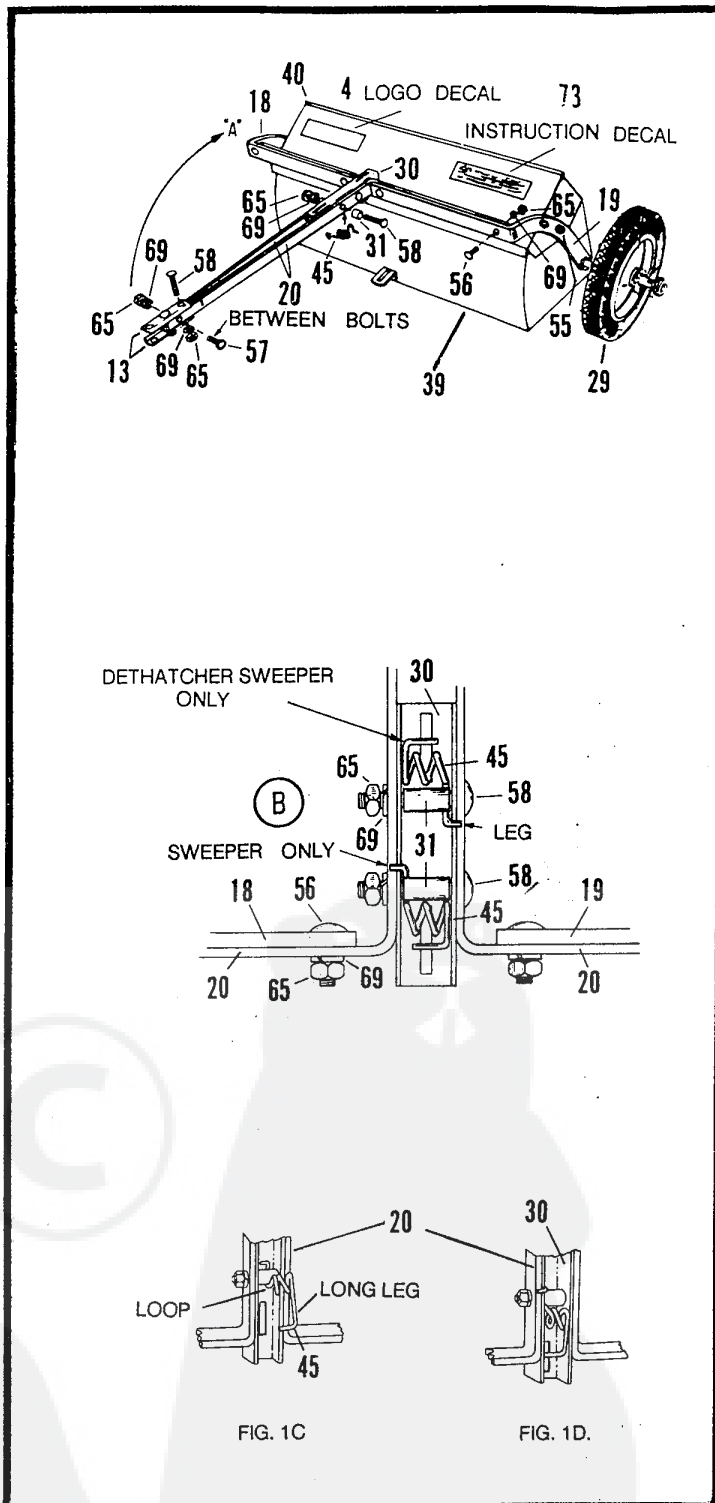

FIG. 1
- The 1" welded angle is on the bottom (at the rear) of the brush housing (39).
- Do not tighten any fasteners (except where specified) until assembly as described in Fig. 1 has been completed.
Refer to Fig. 1